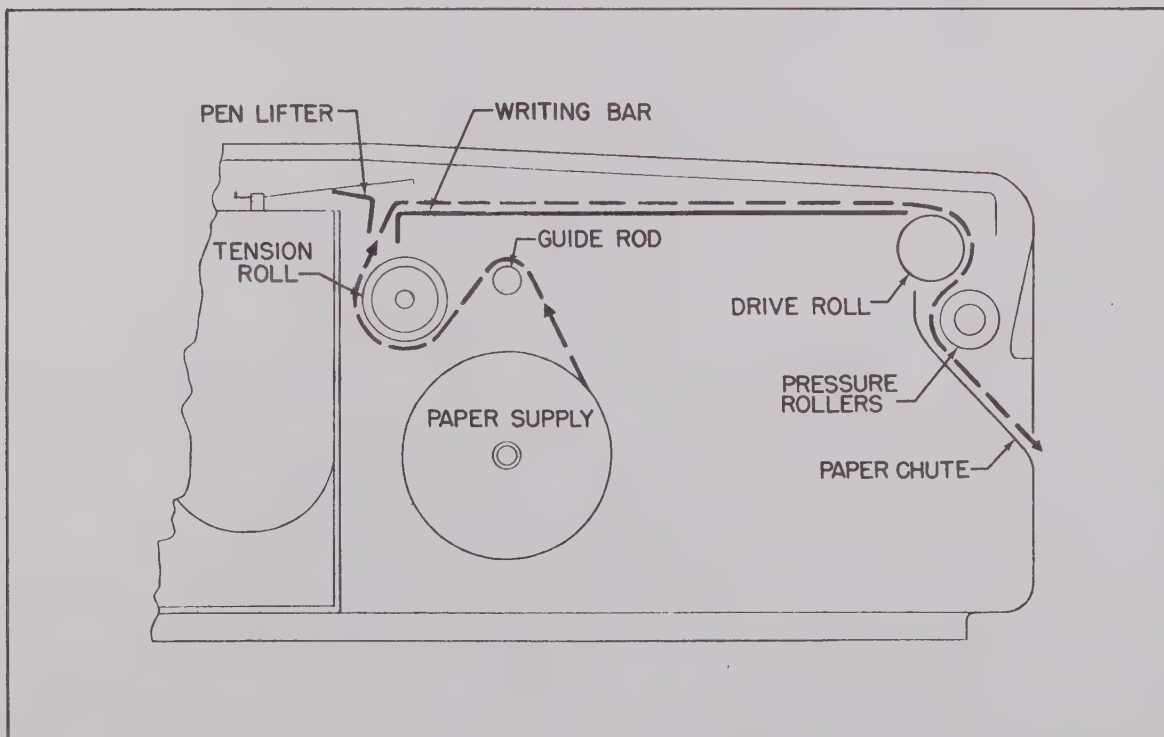

Fig. 4. Paper Loading Diagram
6. Lead the pointed end of the chart paper over the GUIDE ROD: under the TENSION ROLL: up and over the WRITING BAR, Fig. 4. Care should be exercised not to snag the tips of the pens or styli with the end of the chart paper.